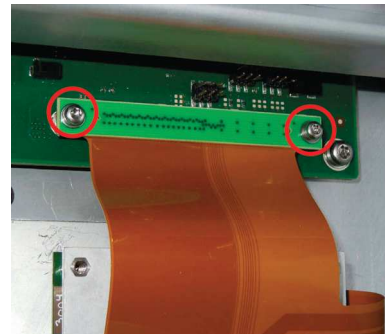

Fig. 7.14 Connector
- 4 Remove the two screws holding the connector for the interconnection PCB to the motherboard - use Torx T10 (tools 1/7). Shown in Fig. 7.14 \(p. 122\).